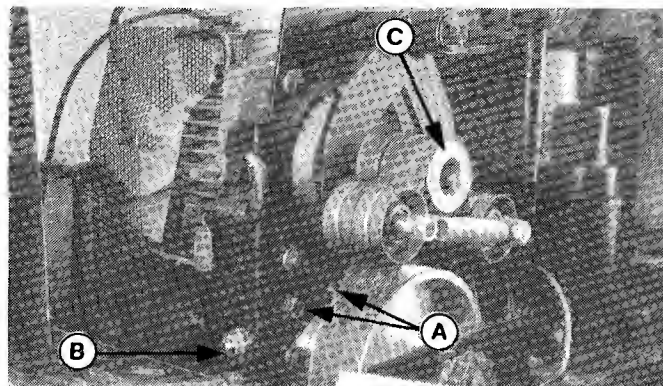

Figure 29.
3. Loosen the two adjustment screws (A, figure 29).
6. Loosen the jam nut (B, figure 29). Turn the inner nut either left or right until the output pulley (C) stops turning.
7. Tighten the two adjustment screws (A, figure 29).
8. Tighten the jam nut (B, figure 29) against inner nut.